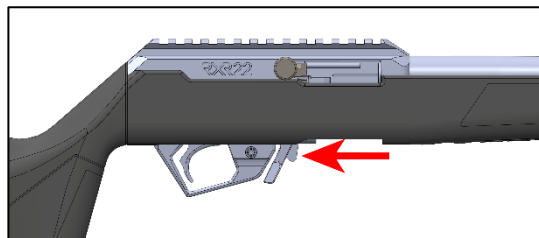

Figure 6
- While securely holding the cocking handle fully rearward, press rearward on the bottom portion of bolt lock – Figure 6. Allow the cocking handle to move forward to engage the bolt lock.